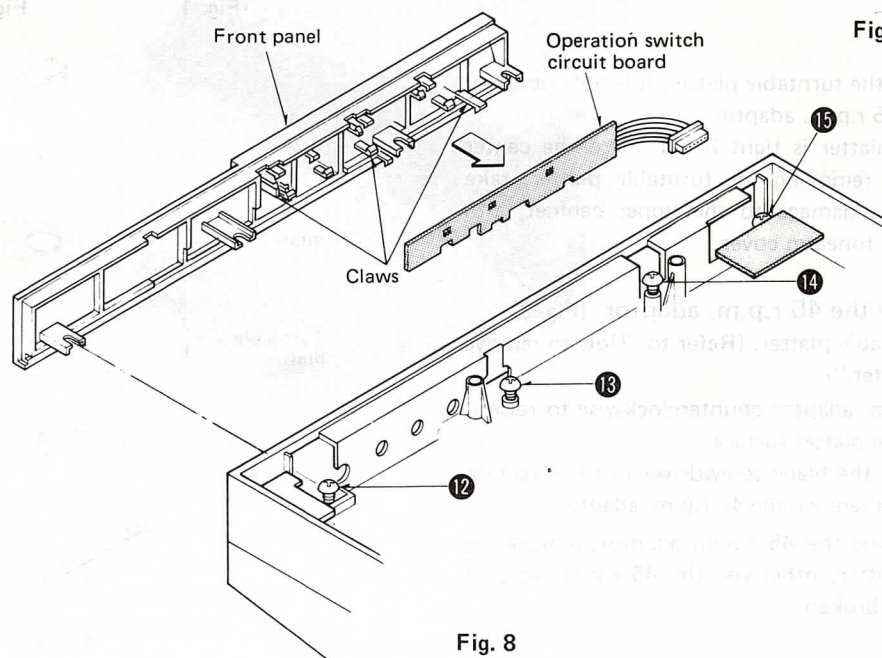

Fig. 8
2. Loosen the 4 front panel setscrews (Fig. 8: ⑫ ~ ⑮).